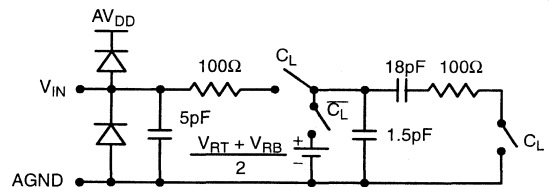

Figure 8. Equivalent Input Circuit
- See V_{IN} equivalent circuit (Figure 8.). Switched capacitor analog input requires driver with low output resistance.
This part has a switched capacitor type input circuit. This means that the input impedance changes with the phase of the input clock. V_{IN} is sampled at the high to low clock transition and the digital data changes at the low to high clock transition. The diagram *Figure 8*. shows an equivalent input circuit.